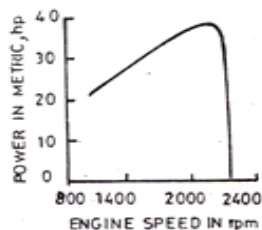

Fig. 11.3
- Hourly fuel consumption as a function of engine speed (Fig. 11.3)